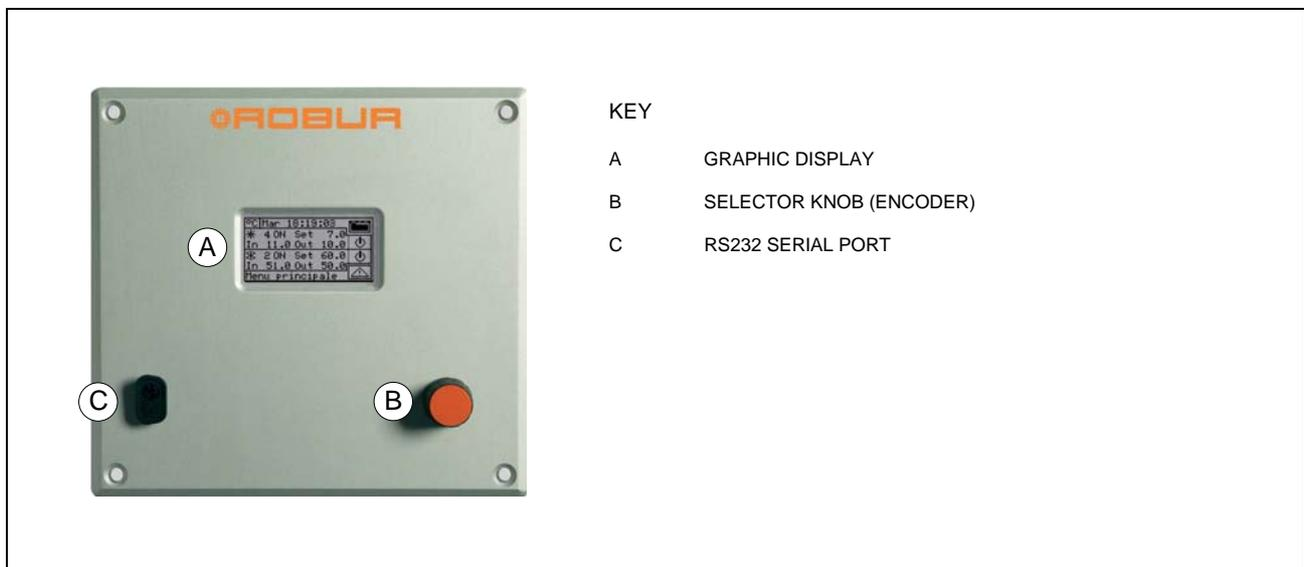

Figure 1 – FRONT VIEW OF DIRECT DIGITAL CONTROLLER.
- **Graphic display** on which all the parameters necessary to control, program and configure the plants managed by the DDC are shown (see detail A in Figure 1).
- **Selector knob (Encoder):** the instrument with which it is possible to interact with the DDC. It allows the operator to select options, set parameters etc. (see detail B in Figure 1).
- **RS 232 serial port** for connecting the DDC to a PC (see detail C in Figure 1).